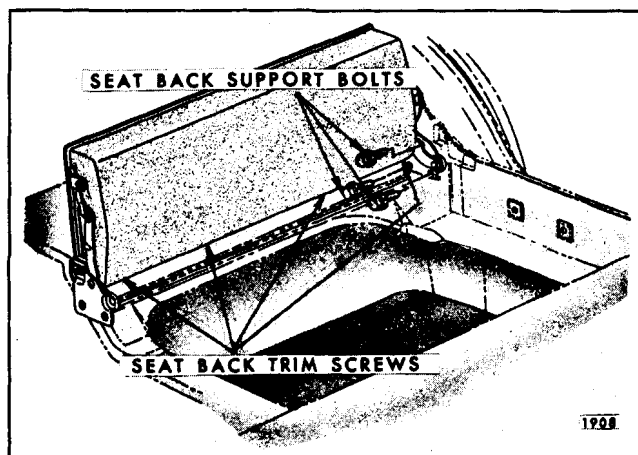

Fig. 14-66-Folding Third Seat Back - "A" Body Three-Seat Styles
2. Remove four screws securing lower edge of seat back trim to seat back panel (see Fig. 14-66).